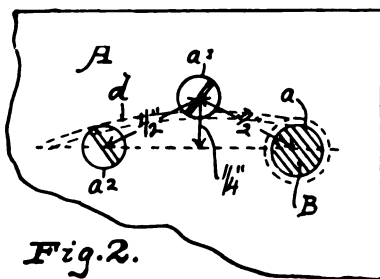

Fig. 2.
It is just as important that a wrench should be balanced as that a hammer should be. In making an S-wrench, do not give it too much hook, as you can not handle it so fast. The illustrations show how to make a tire-bolt wrench, called a side wrench. It is made of a piece of spring plate $1\frac{3}{4}$ in. by 6 in. Parts C and D are worked over the hardy, having care not to punch the holes at these points too far back. H indicates holes punched in material to be cut away. Part A, Fig. 1, should be beveled from the center and made as wide as the material will allow. B, Fig. 2, shows the pointed jaw
Get a hardwood board (A) about 12 in. long, 6 in. wide and $\frac{3}{4}$ in. thick. At one corner bore a hole (a, Fig. 2) of the size that the inside diameter of the spring is to be. Set two flathead screws (a' and a'') in the board in the positions in relation to the hole indicated in Fig. 2. At the opposite end of the board, near the upper cor-